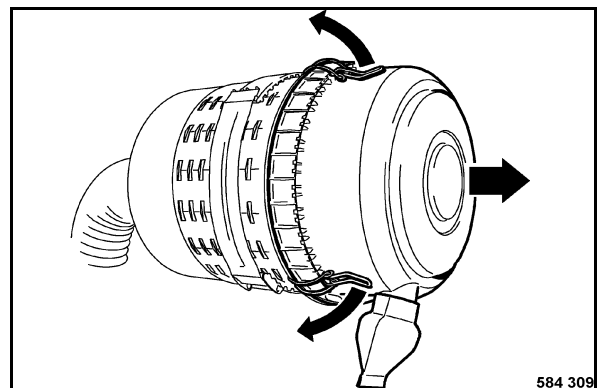

Fig. 187
- Loosen both locking hooks (Fig. 187) on the housing cover and take the cover off.